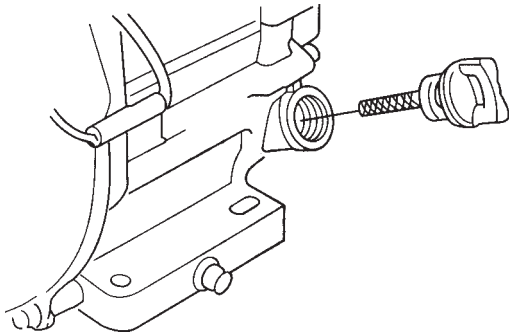

Figure 10. Engine Oil Dipstick (Removal)
2. Remove the filler cap/dipstick from the engine oil filler hole (Figure 10) and wipe it clean.